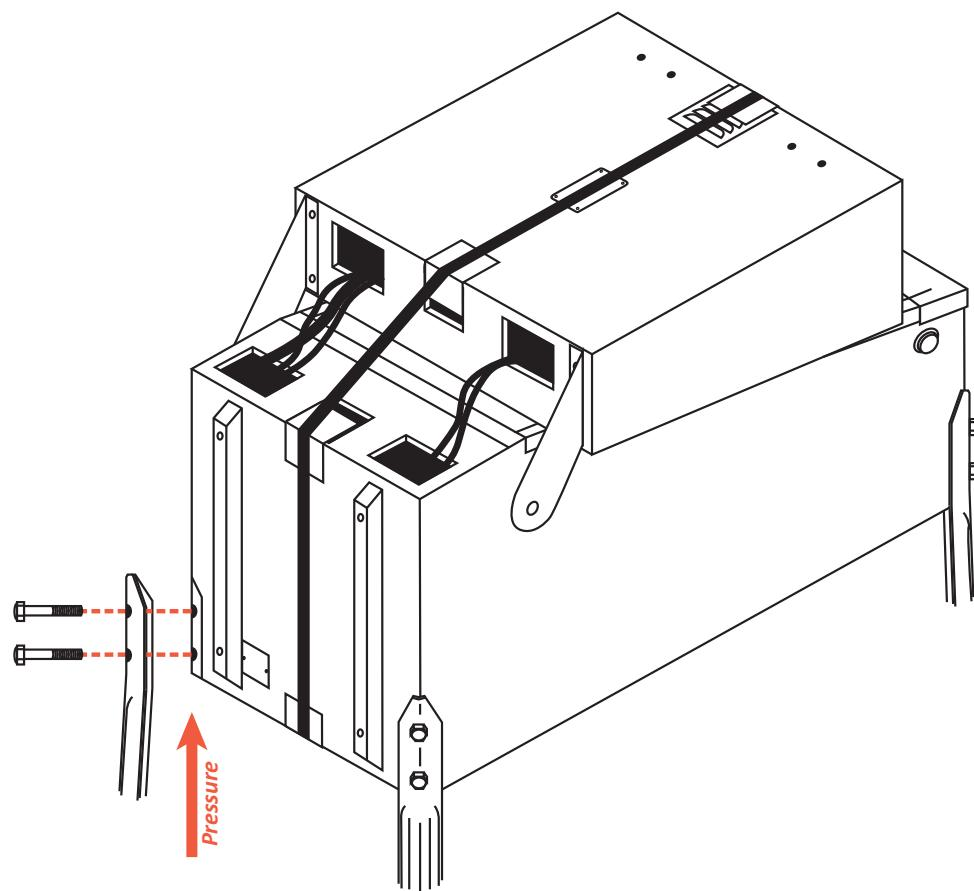

Figure A6. Installing the rear legs and cabinet protectors.
6) With the help of at least one other person, carefully tip the game onto its front legs. Lift the rear of the cabinet and have two people hold it or place it on a sturdy support. As with the front legs, attach the two rear legs, using the four remaining acorn-head bolts. Tighten all bolts firmly, while maintaining upward pressure on the legs (see figure A6). Lower the game onto its four legs.